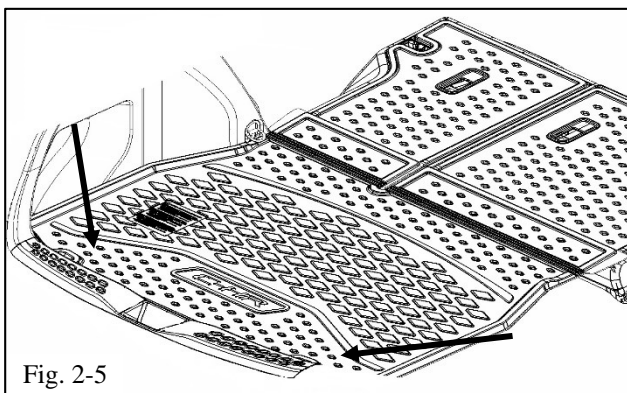

Fig. 2-5
- (g)  Apply pressure on the two adapter pads of the cargo tray shown to ensure proper Velcro attachment to the floor before lifting the rear seats up (Fig. 2-5).